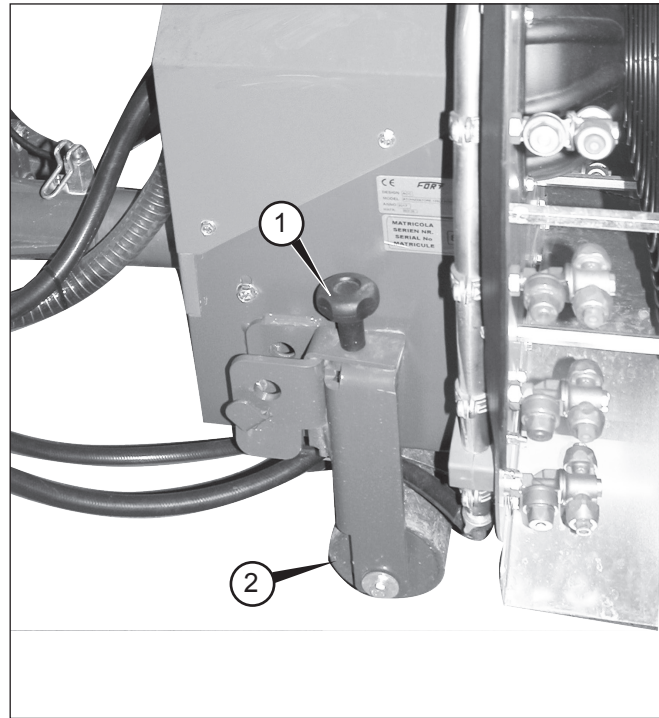

Fig. 15 - Fan height adjustment
- Through the knob (1 Fig. 15) lock the rear stabilizer roller supports.